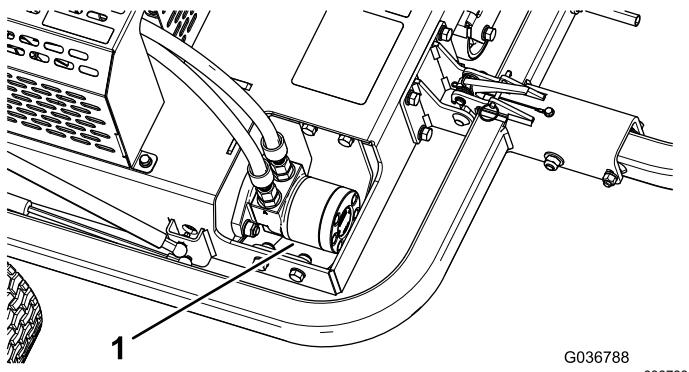

Figure 41
3. Clean dirt and debris from the area around the hydraulic motor (Figure 41).